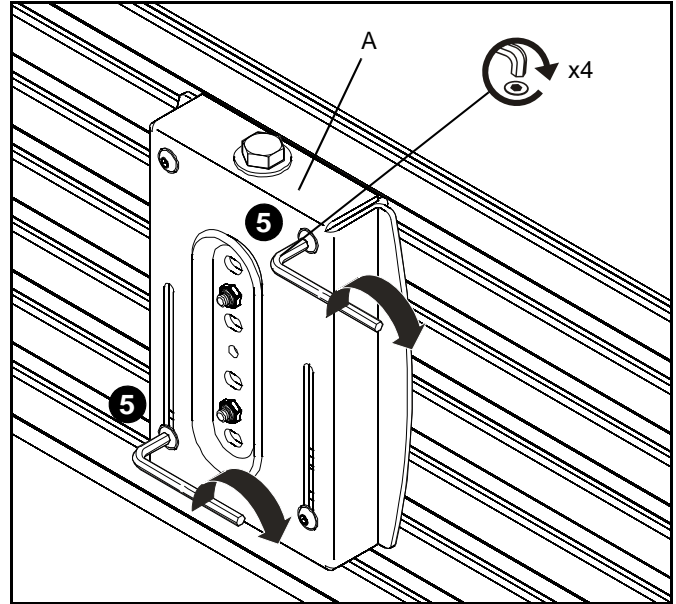

Figure 3
5. Tighten two upper and lower button head cap screws to secure wall bracket (A) to wall. (See Figure 3)